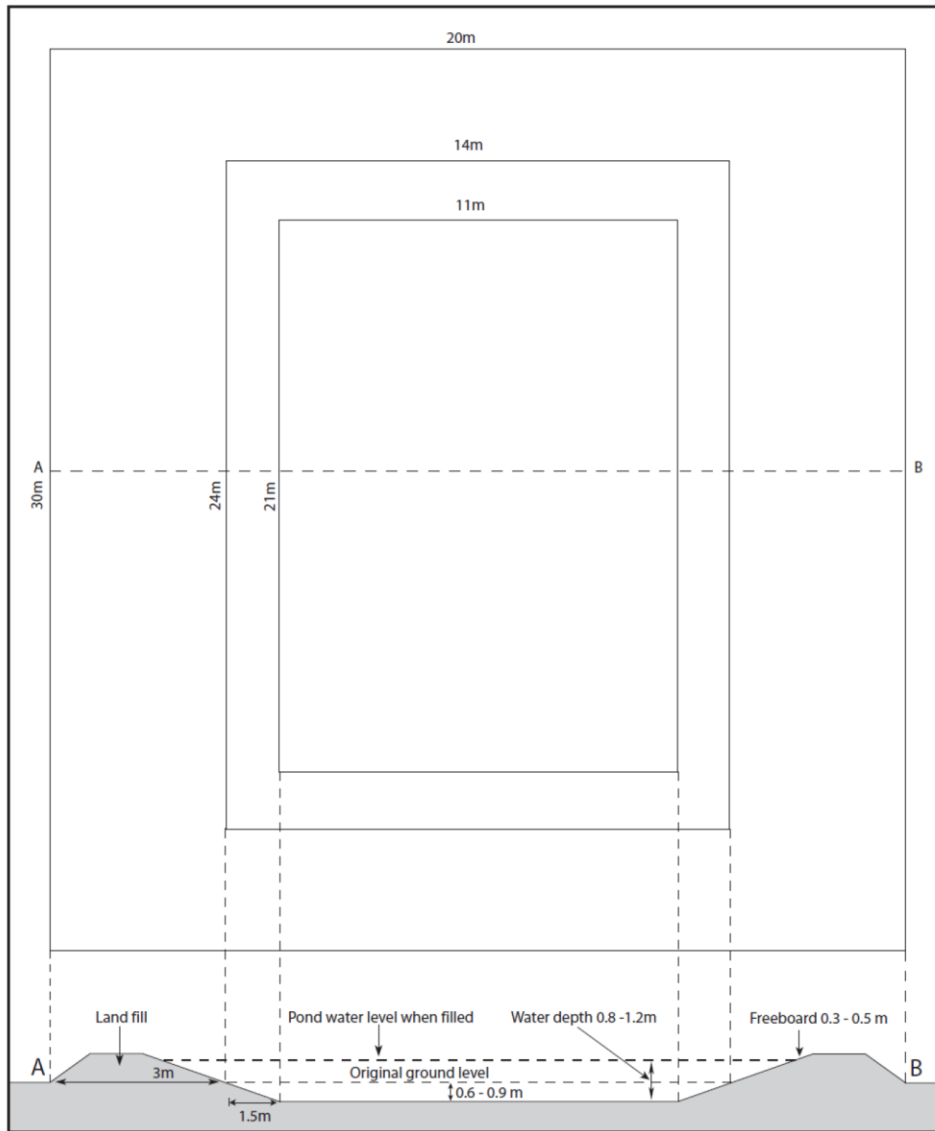
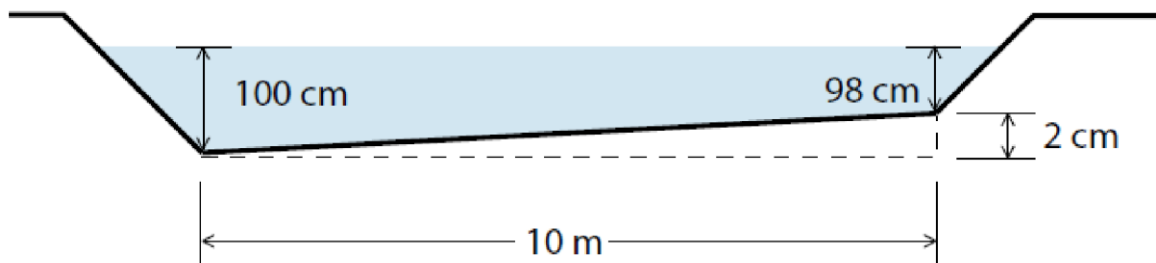

Figure 3-2: Ground plan for a hand-dug pond (top) and cross-section of pond along A-B (bottom)
Figure 3-3: The sloping of the pond
- a. Line and peg to set out the dimensions of your ponds (Figure 3-2)
The slope of the pond bottom: The pond bottom must have a slope sufficient for good drainage. In general, slopes with a drop of 2 cm for every 10 m along the pond bottom are appropriate (Figure 3-3). If the slope
The workers should be organized in a row with shovels and digging forks. The central 21 m x 11 m area is dug out first, and the excavated soil is used to build the dike (Figure 3-2). The digging begins at the shallow end of the pond, at the string marking the central area (Figure 3-3).